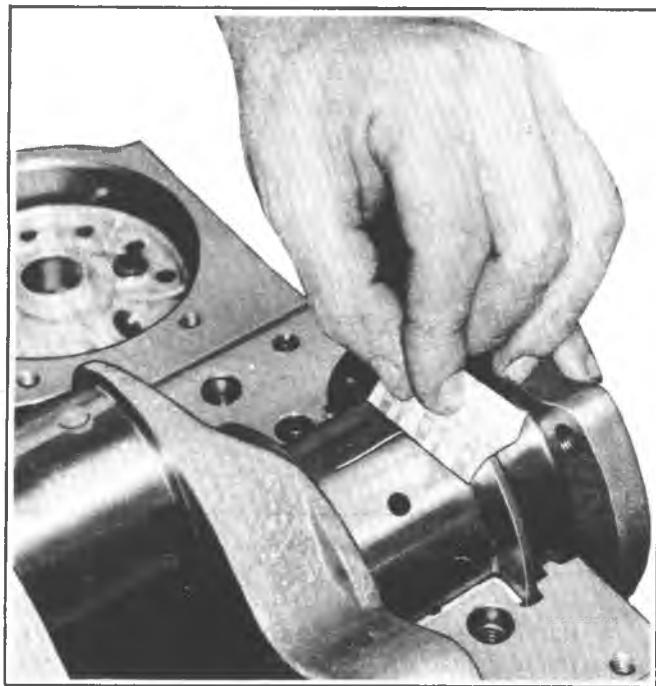

Fig. 6A4-44--Measuring Gaging Plastic
5. On the edge of gaging plastic envelope there is a graduated scale which is correlated in thousandths of an inch. Without removing the gaging plastic, measure its compressed width (at the widest point) with the graduations on the gaging plastic envelope (fig. 6A4-44).